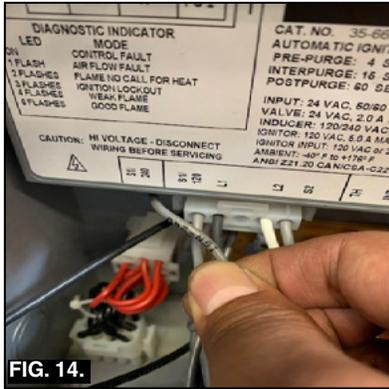

FIG. 14.
10. Mount the bundle of wires on the blower. Plug in the blower motor. (Fig. 14).
10. Connect S1/240, located on the left side of the 5-pin connector. (Fig. 14).